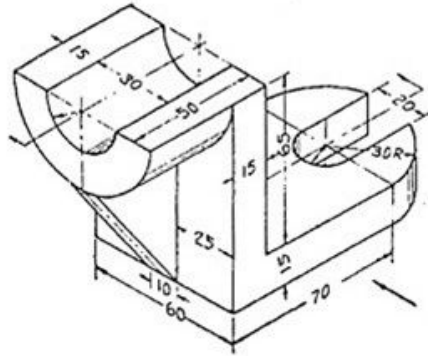

Figure 2
5. Draw the following views of the object given in figure 2. 20